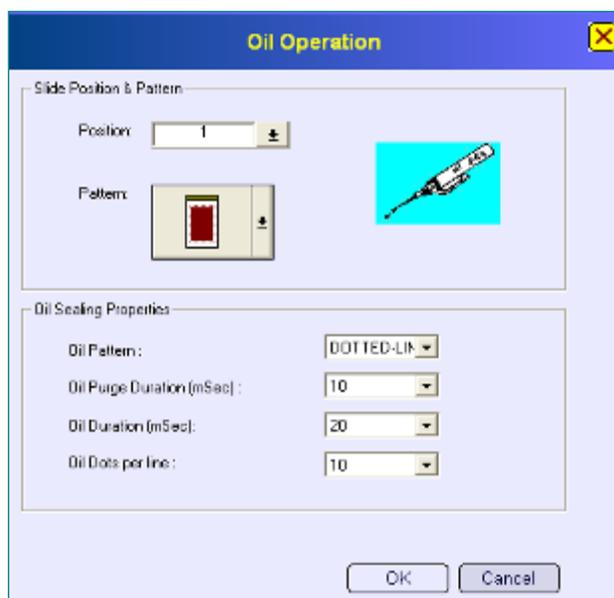

Fig. 77: <Operations> Window
6. Select **<Operation>** in the submenu. The **<Operations>** screen (**Fig. 77**) will appear.